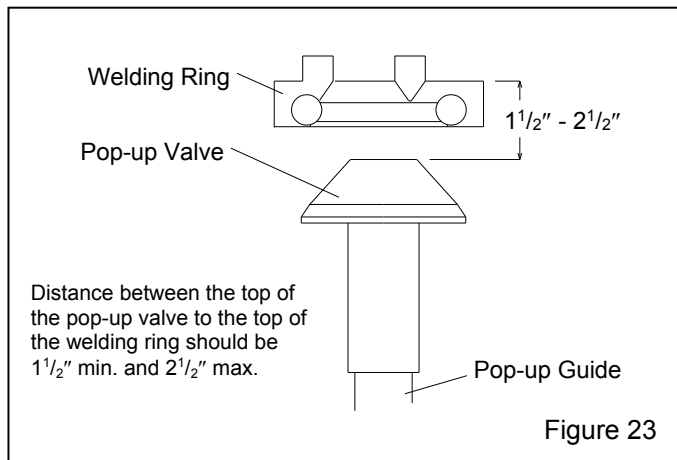

Figure 23
6.10.6 Refer to Figure 23 to check the pop-up height. If the pop-up sits too low, misalignment could occur when the pop-up comes up against the seal. If the pop-up sits too high, it will take longer for abrasive to flow through the opening when filling. Adjust the height by replacing the guide with one that is longer or shorter.